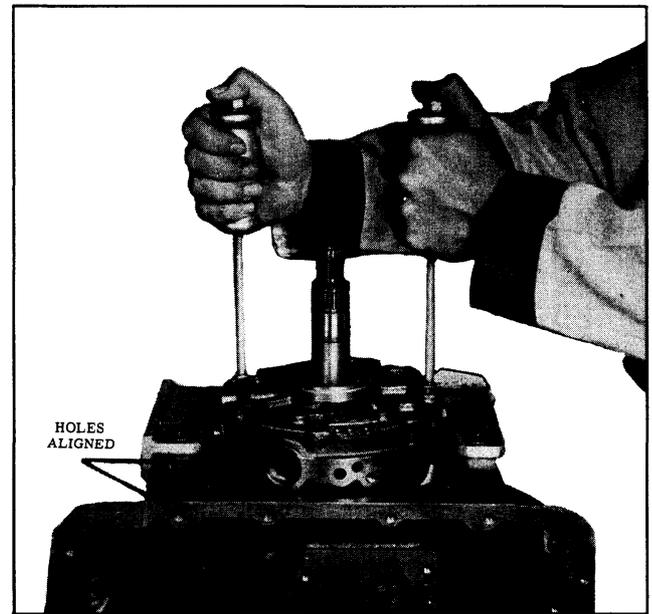

Fig. 3-144 Installing Front Pump
8. Install Tools J-6125 into front pump and install pump into case with intake pipe hole aligned with hole in the case. (See Fig. 3-144)